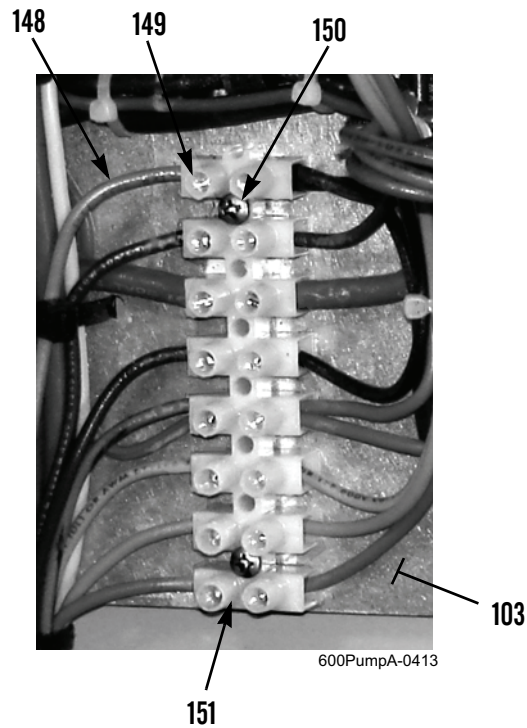

Figure 38. Small-Connection Terminal Block.
1. Loosen 16 screws (Figure 38, Item 149) and remove 19 wires (Figure 38, Item 148) from small-connection terminal block (Figure 38, Item 151).
2. Remove two screws (Figure 38, Item 150) and small-connection terminal block (Figure 38, Item 151) from inside circuit board panel (Figure 38, Item 103).
1. Install small-connection terminal block (Figure 38, Item 151) on inside circuit board panel (Figure 38, Item 103) with two screws (Figure 38, Item 150).
2. Install 19 wires (Figure 38, Item 148) on small-connection terminal block (Figure 38, Item 151) and tighten 16 screws (Figure 38, Item 149).